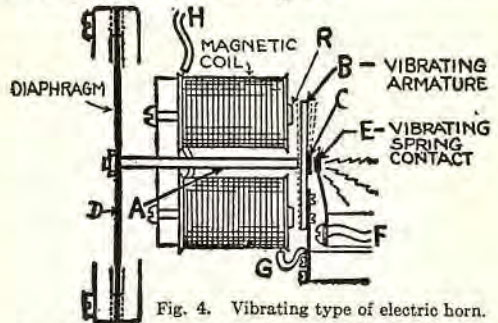

Fig. 4. Vibrating type of electric horn.
The vibrating type of electric horn produces a sound resulting from the action of a vibrating armature (B) (Fig. 4) magnetically operated by the magnet cores (R). The vibrations are transmitted through rod (A) to a diaphragm (D), thus producing a sound which is greatly magnified by having a horn or trumpet attached as in Fig. 4B.
Adjustment is made by adjusting the rod (A) (Fig. 4) in relation to (B), to obtain a greater or less number of vibrations, which increases or decreases the sound transmitted through diaphragm (D). This adjustment on Fig. 4B is made by screwing (S) in or out with current on until the sound is as desired.